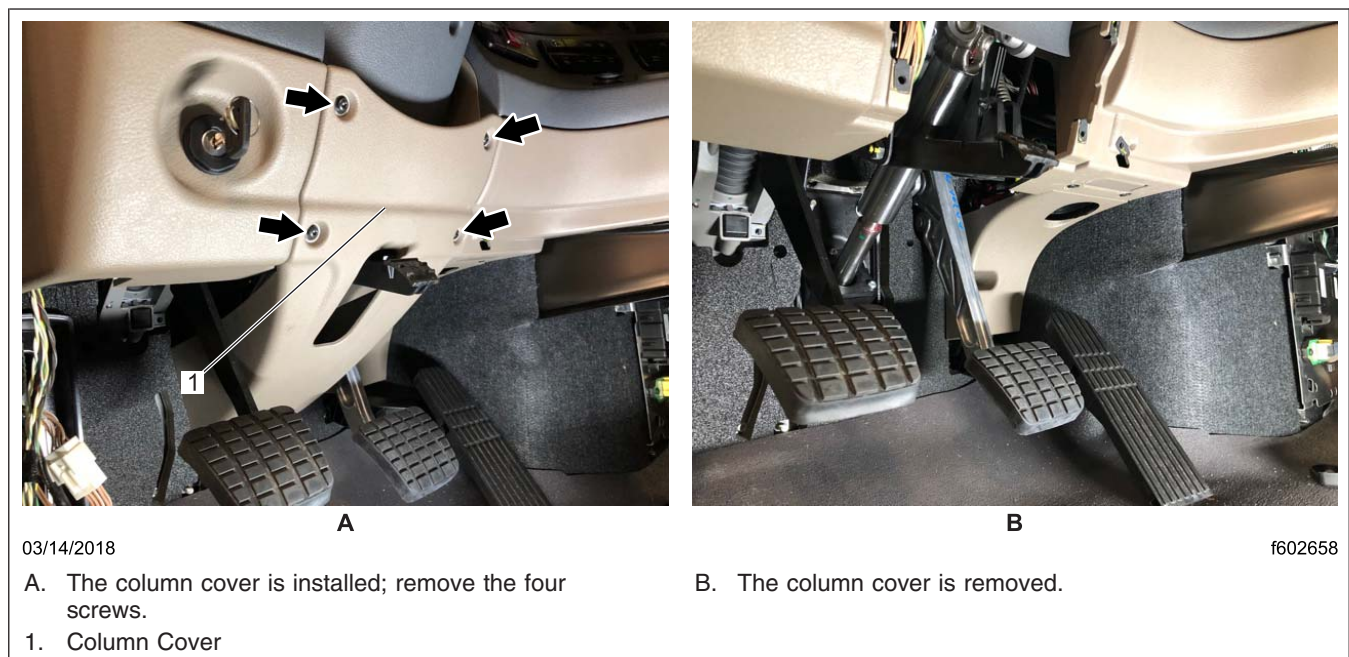

Fig. 1, Column Cover, Cascadia Vehicles
3. For Cascadia vehicles, remove the four screws attaching the column cover to the dash, then remove the cover. See Fig. 1, Ref. A.
For Cascadia vehicles, use the four screws and install the column cover. See Fig. 1.